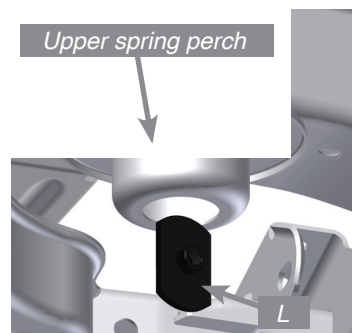

fig. 12
4. Insert the nut plate (L) into the opening within the upper spring perch with the flat of the plate facing downward, nut facing upward (figs. 12 and 13).